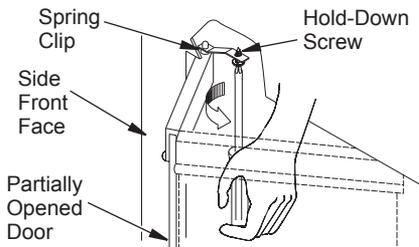

Figure 36 - Adjusting Glass Doors
- To adjust doors, slide them partially open. Using a screwdriver, loosen hold-down screws in the spring clip (see Figure 36) and pivot plate.